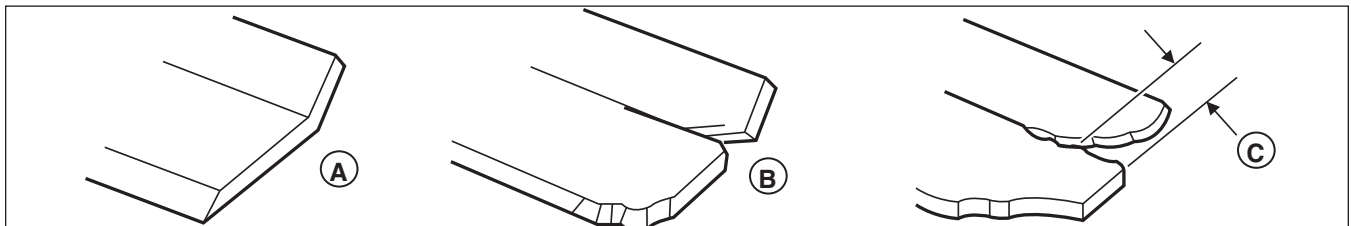

Figure 28. inspecting the Mower Blade Air Lifts
- A.) Has more than .5" (12,7 mm) of the mower blade metal removed from previous sharpening or wear (D, Figure 28).
- B.) The air lifts are excessively eroded (B & C, Figure 28) and the notch (C) is .25" (6,35 mm) deep or greater.